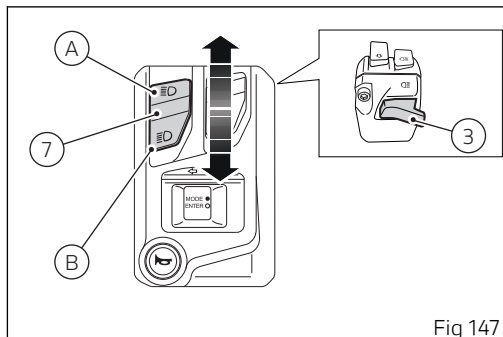

Fig 147
If the low beam is activated, it is possible to switch on the high beam with button (7, Fig 147) position (A), or flash with button (3, Fig 147).
If engine is not started upon key-on, it is anyway possible to switch low/high beams on by pushing button (7, Fig 147) positions (B) and (A), or flash with button (3, Fig 147) on LH switch.